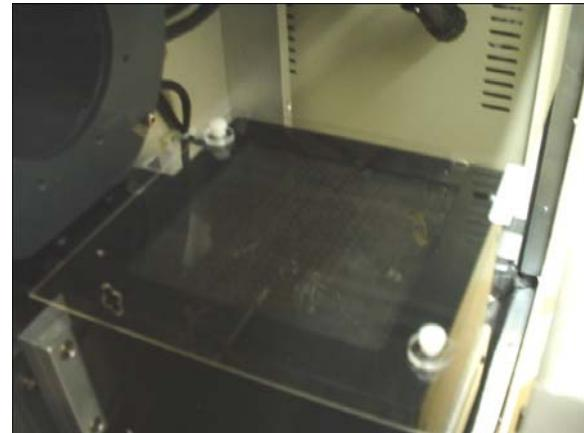

Figure 7-67
- 3.) Install the BB grid on the detector using two plastic screws and flat washers (Figure 7-67). Insert the screws with washers through the smaller holes on the detector, and TURN BY HAND ONLY UNTIL THEY ARE JUST HOLDING THE GRID IN PLACE.